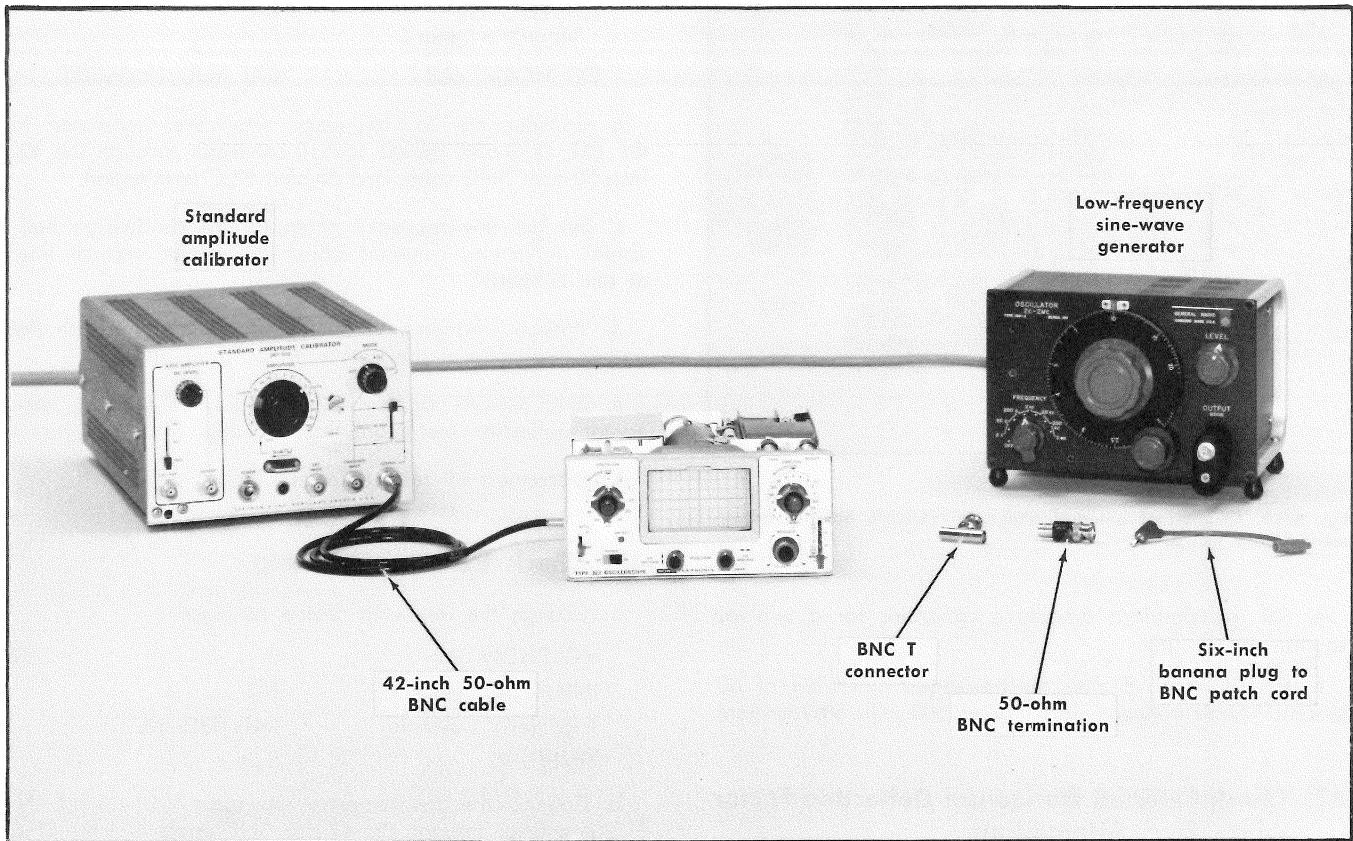

Fig. 6-18. Initial test equipment setup for steps 39 through 45.
- a. Test equipment setup is shown in Fig. 6-18.